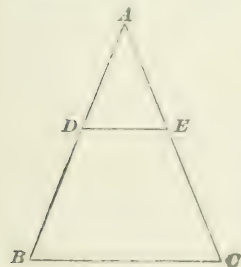

FIG. 27.
57. If a straight line be drawn through two sides of a triangle, parallel to the third side, a second triangle will be formed whose sides will be proportional to the corresponding sides of the first triangle. Thus, in the triangle ABC , Fig. 27, if the line DE be drawn parallel to the side BC , the triangle ADE will be formed and we shall have
EXAMPLE.—In Fig. 27, if $AB = 24$, $BC = 18$, and $DE = 8$, what does AD equal?